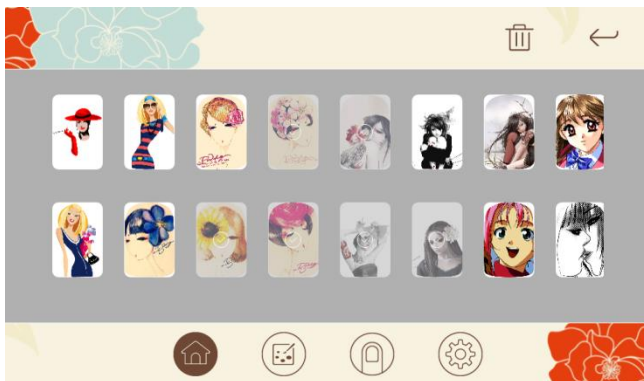
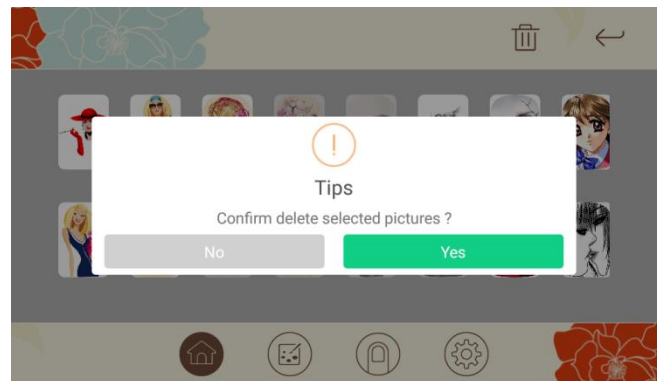

Figure 4
Figure 5
- (4) Long pressing can delete the system gallery patterns, as shown in Figure 4 and Figure 5.